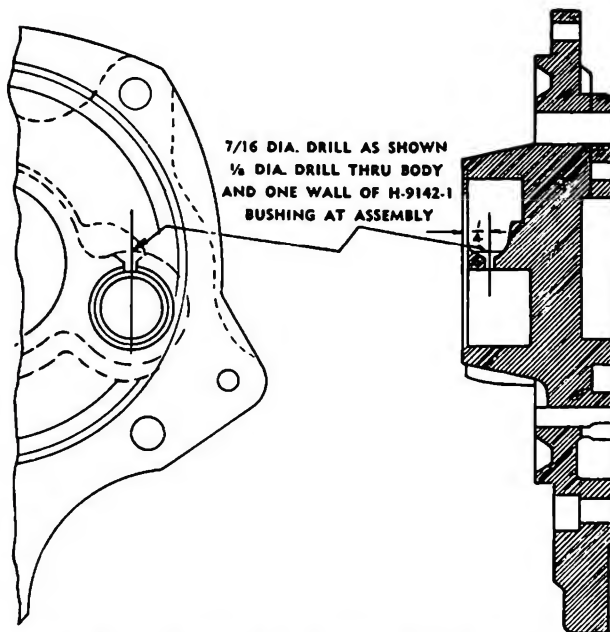

Fig. 5-46. Drilling to provide cam rocker lever lubrication
9. Late style cam rocker levers are drilled for lubrication at the gear pump end. Old style lever can not be drilled but the No. 1 gear housing and bushing should be drilled as shown in Fig. 5-46, if the undrilled rocker lever is to be used.